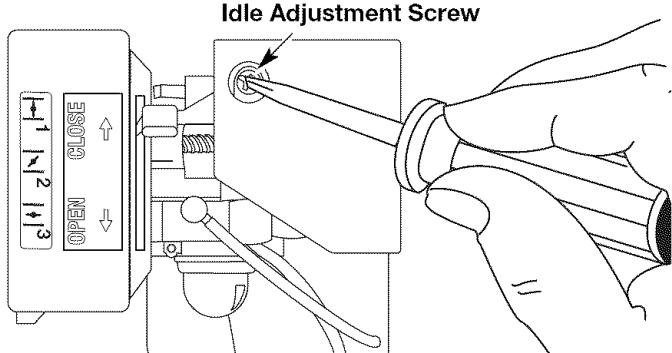

Fig. 22
The idle speed of the engine is adjustable. An idle adjustment screw is reached through a hole in the top of the engine cover (Fig. 22).
2. Release the throttle trigger and let the engine idle. If the engine stops, insert a small Phillips or flat blade screwdriver into the hole in the air filter/muffler cover (Fig. 22). Turn the idle speed screw in, **clockwise**, 1/8 of a turn at a time (as needed) until the engine idles smoothly.